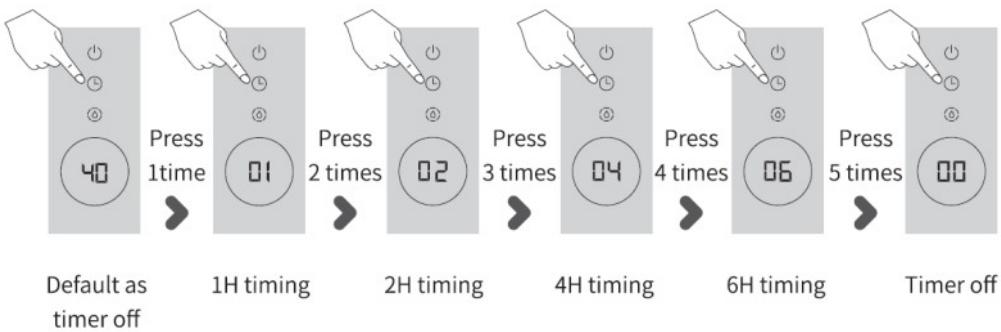

Figure 4
1. Take away the water tank cover (1) together with water filling lid (1).
2. Pour 2-3 drops of essential oil on an aromatherapy cotton sponge (13) and place it inside an aromatherapy container (4). Look at Figure 4. Place an aromatherapy container (4) on the top of the mist outlet (10). The nice smell will be distributed together with mist.